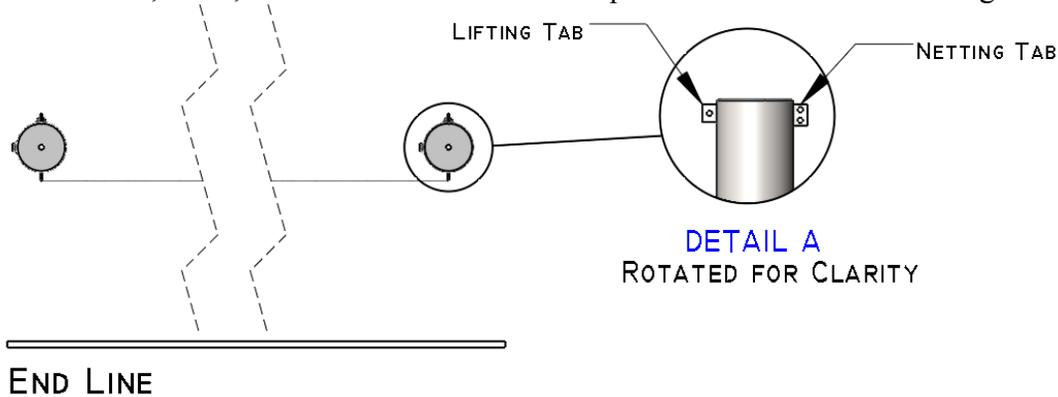

Figure 3
1. Using a Large Lift, set the assembled poles into the ground sleeves with the Netting tab toward the field of play, Perpendicular to the End Line (Figure 3).